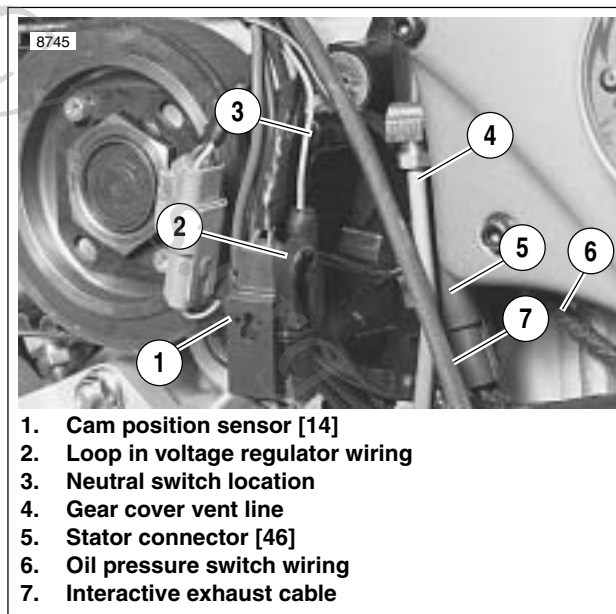

Figure 7-88. Cam Position Sensor Wiring
3. Connect stator connector (9).
4. See Figure 7-88. Connect cam position sensor [14] (1). Form a loop (2) as shown using wiring leading to cam position sensor.